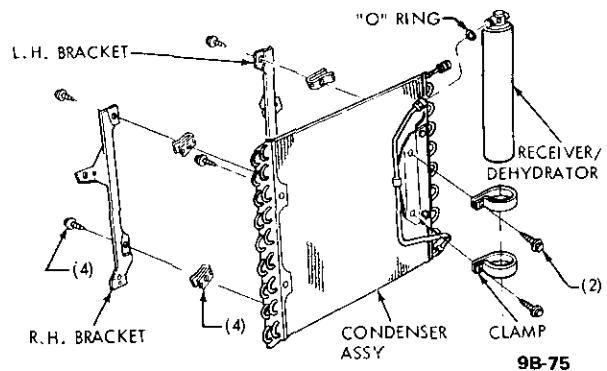

Figure 9B-101 Receiver - Dehydrator. Condenser Attaching Screws and Brackets - GT
6. Remove 4 condenser attaching screws and lift out condenser. See Figure 9B-101.